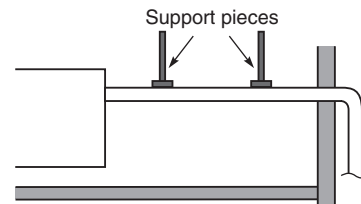

Fig. 3-47
- Do not apply force to the piping on the unit side when connecting the drain pipe. The pipe should not be allowed to hang unsupported from its connection to the unit. Fasten the pipe to a wall, frame, or other support as close to the unit as possible. (Fig. 3-47)